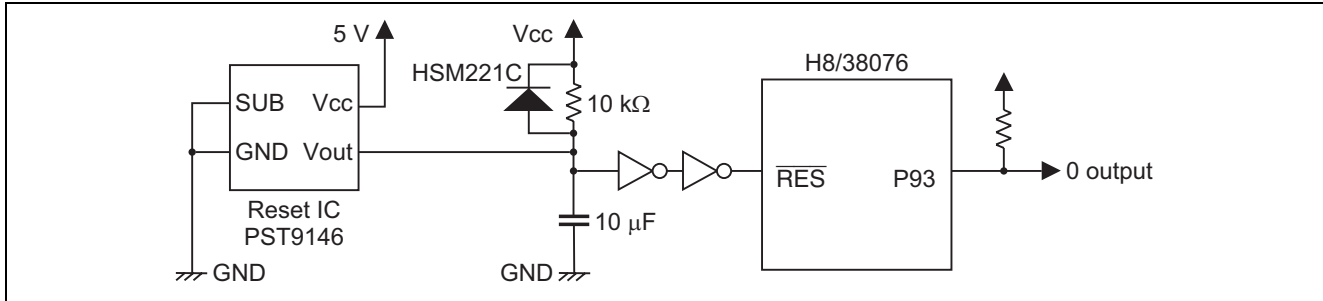

Figure 1 Connection of Microcomputer when Reset IC Is Used
- A reset IC performs power-on resets. Figure 1 shows an example of connecting the reset IC.